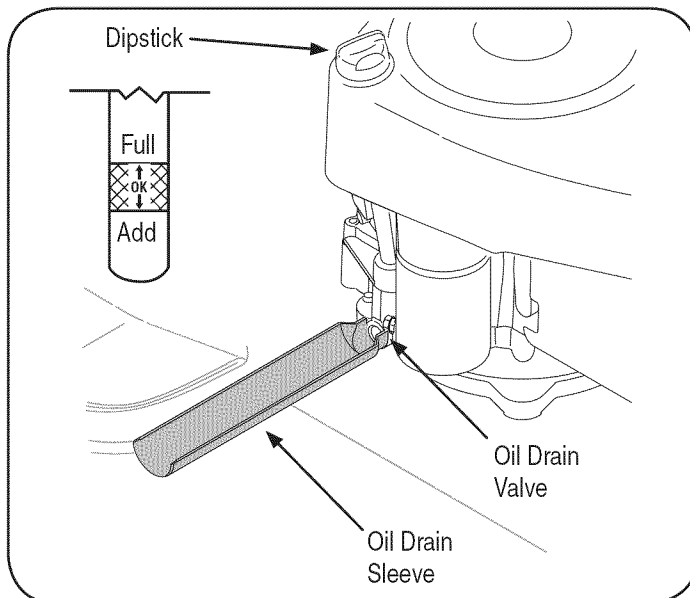

Figure 9
3. Remove the dipstick and check the oil level. It should be at the Full mark on the dipstick. See Figure 9.
2. Remove the oil fill cap/dipstick from the oil fill tube. See Figure 9.